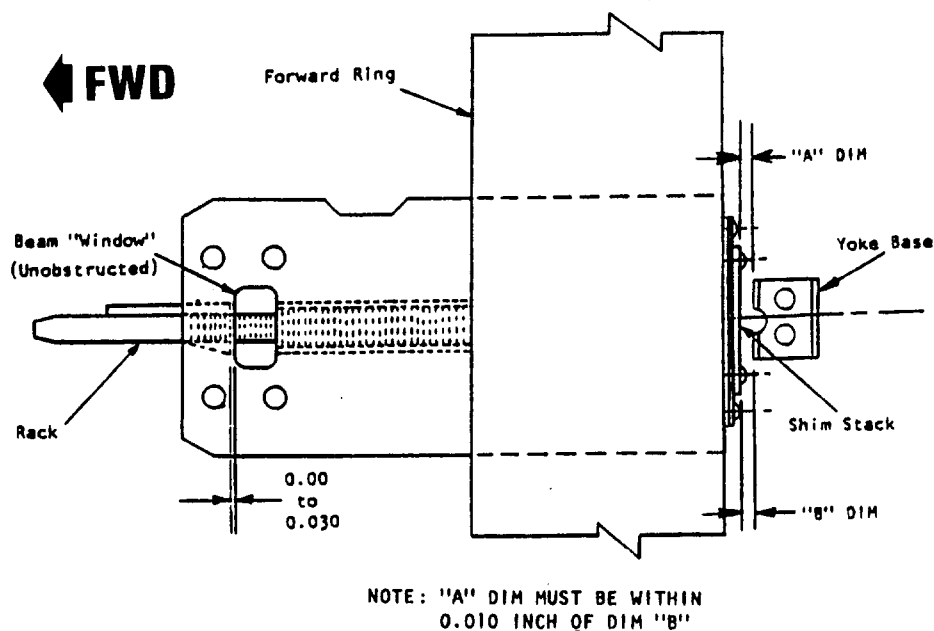

Figure 203 - Rack To Beam Alignment
- (3) Check the "window" in both beams and assure the rack inboard forward edge aligns per Figure 203 to the forward edge of the beam.
- (4) Using a feeler gauge, measure the gap at the top and the bottom of each yoke base to the forward ring. Allowable gap is 0.005 to 0.040 inch but to ensure parallelism between each yoke base and the forward ring, the maximum difference between top and bottom measurements at each side is 0.010 inch (see Figure 203). Maximum gap difference allowable side-to-side is 0.020 inch. See Paragraph B.(15) and Figure 208 for more information.